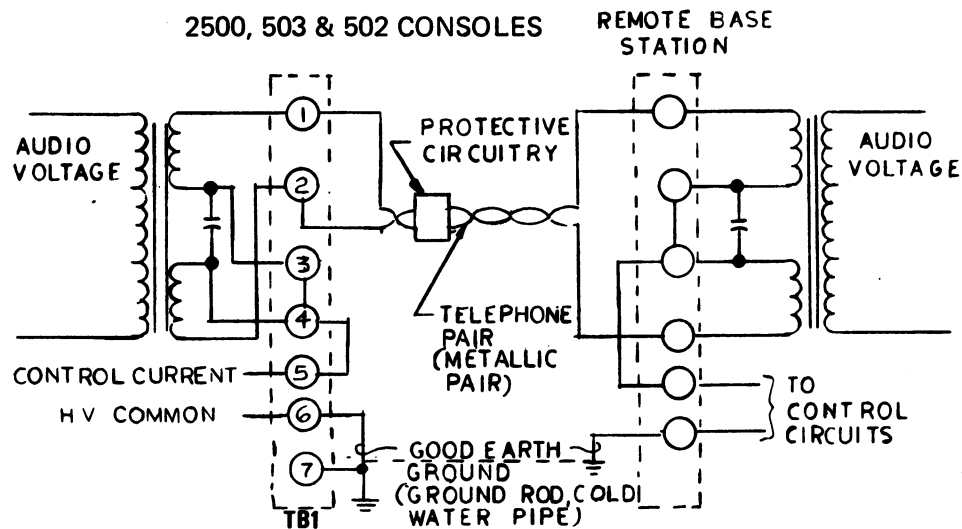

Figure 4B
- Method 2: (For single telephone pair, control voltage simplex line to ground. See Figure 4B.)